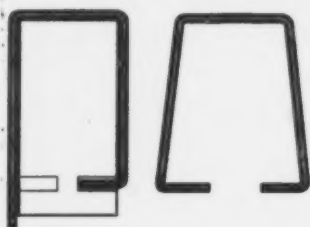

Figure 18 - Forming Wire
36. Cut two pieces of heavy wire 7 1/2' long using side cutters. Using pliers bend the wire around the fixture provided for this purpose until the wire is shaped as in Figure 18.